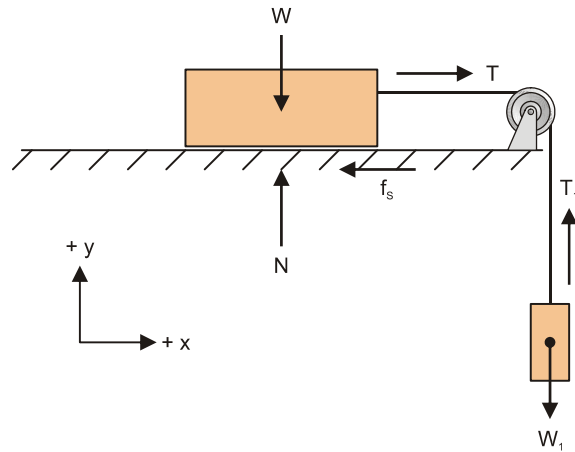
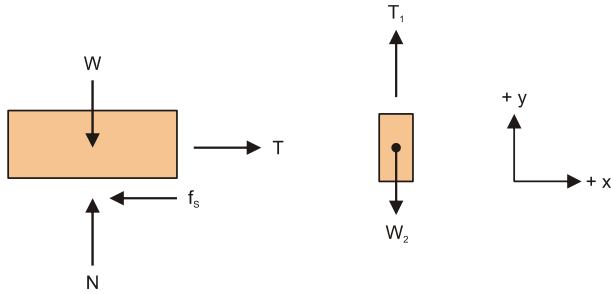
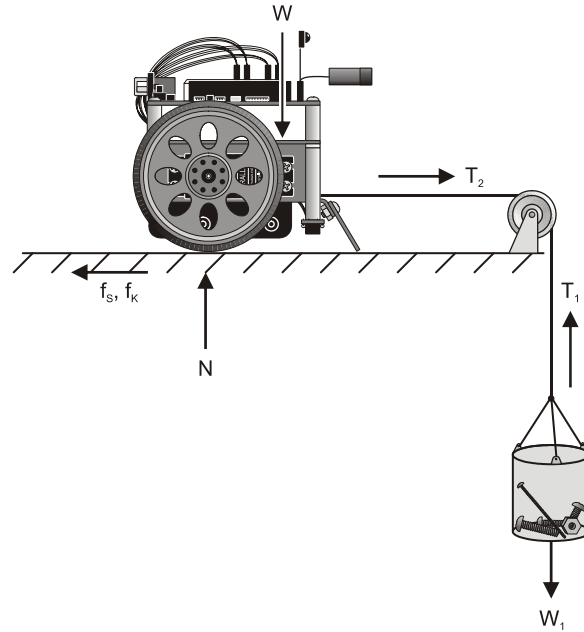

Figure 1-11
Figure 1-12
Figure 1-14
Problem: It took a 700 g mass (W_1) hanging from this pulley system shown in Figure 1-11 to make a 2100 g mass (W_2) start to slide. Find the coefficient of static friction, μ_s .
Solution: If the system is exactly at $T = f_{s,Max}$, nothing is moving yet. From Figure 1-11, we know that T and T_1 are equal and opposite:
The next step is to draw separate free body diagrams for each object (see Figure 1-12). The sum of the forces for the hanging block should add up to zero:
Figure 1-14 shows the setup you will use to test frictional forces.
- ✓ Build the system shown in Figure 1-14.
- ✓ Draw free body diagrams and write the equations for Figure 1-14. Use the problem and solution with Figure 1-11 and Figure 1-12 as your guide.